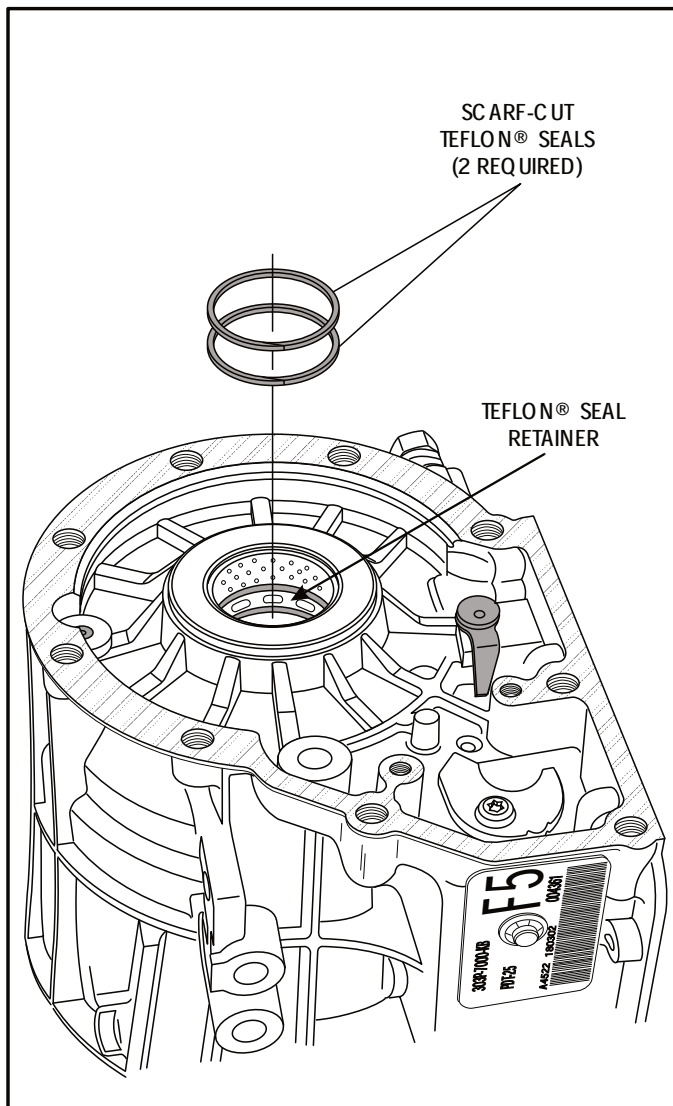

Figure 55
5. Install two new scarf-cut Teflon® seals into the seal retainer in back of case just below the rear case bushing, as shown in Figure 55.